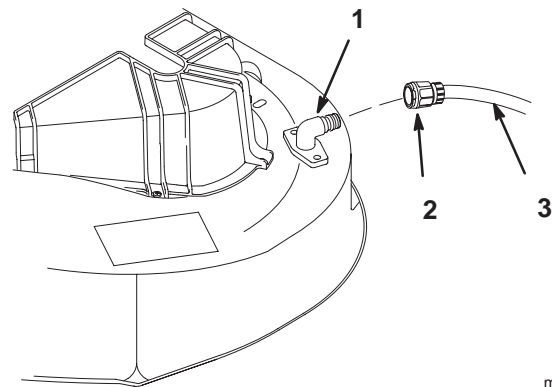

Figure 55
5. Screw the coupling to the end of a garden hose, attach the coupling to the mower washout fitting, and turn the water on high (Fig. 55).